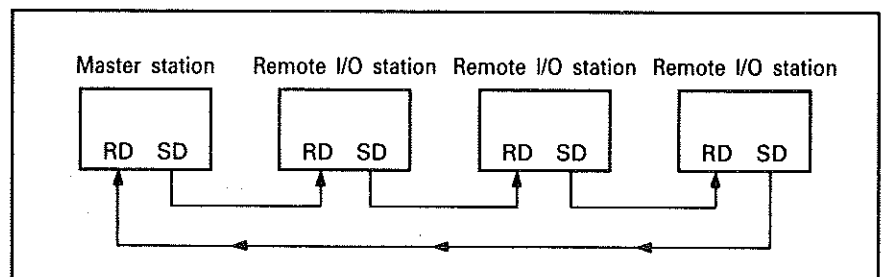

Fig. 5.4 Connection of Optical Fiber Cables
- (1) Connect the optical fiber cables as shown in Fig. 5.4.